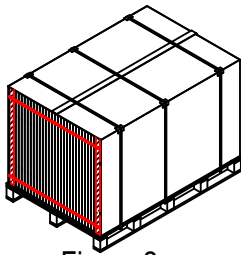

Figure 2
2. Cut and remove the inner transverse security straps around the modules, then remove the paper angles inside the box, as shown in Figure 2.